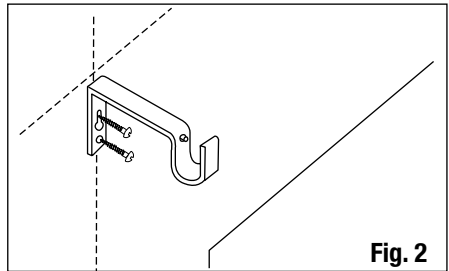

Fig. 2
- Using the wall plugs and screws provided fix the brackets securely (Fig. 2). Alternative wall fixings should be used where necessary.